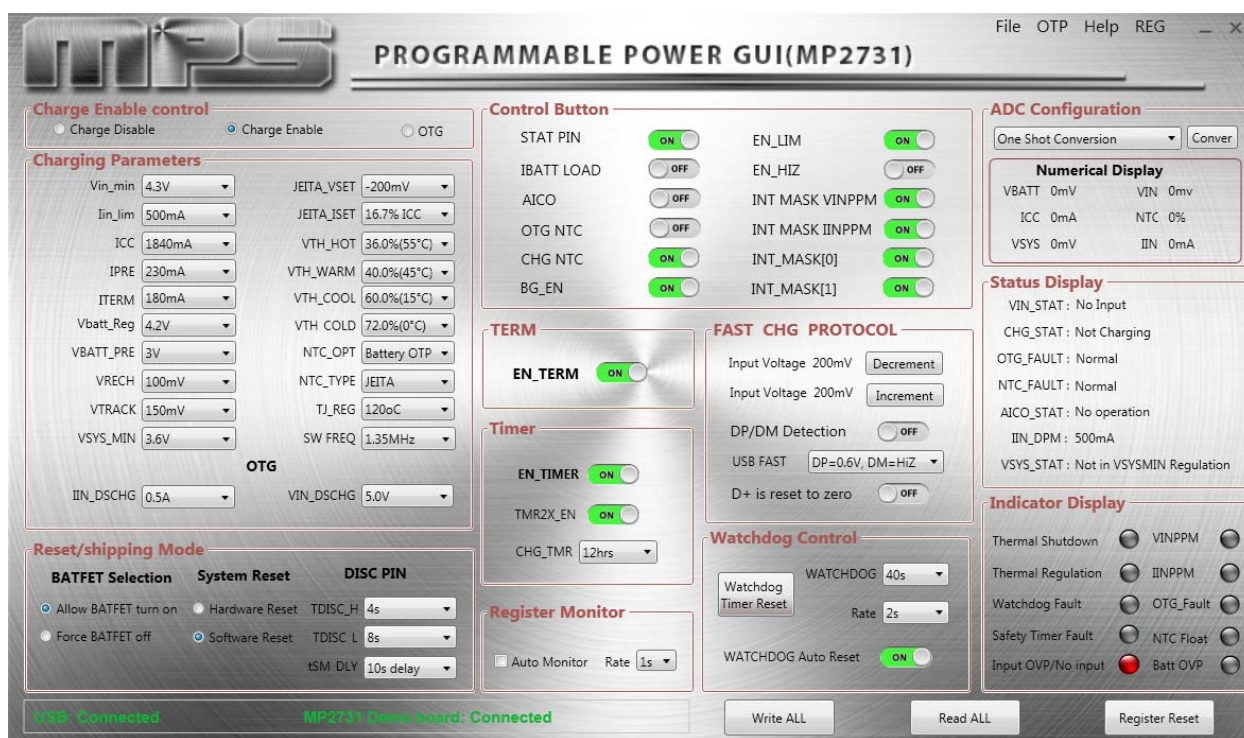

Figure 3: MP2731 Evaluation Software
5. Turn on the computer, and launch the MP2731 evaluation software. Figure 3 shows the main window of the GUI software.
1. Ensure that all the connections are normal (the USB is connected and the EV2731-QC-00A is connected). If all these connections are good, this will be indicated in green in the lower-left side of the window (see Figure 3). Now the user can run the program.